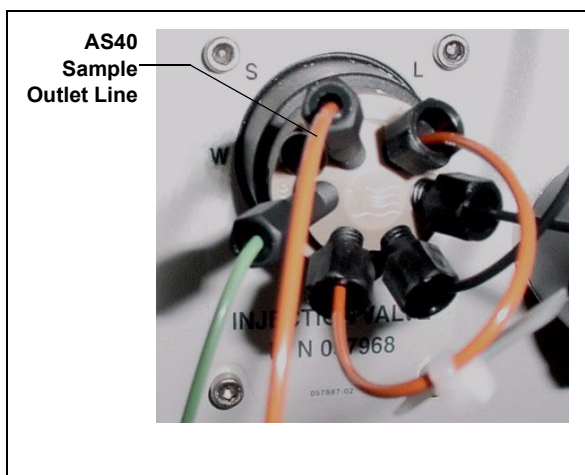

Figure 63. ICS-2000 Injection Valve
3. Connect the outlet line from the AS40 to port **S (5)** of the injection valve (see Figure 63).